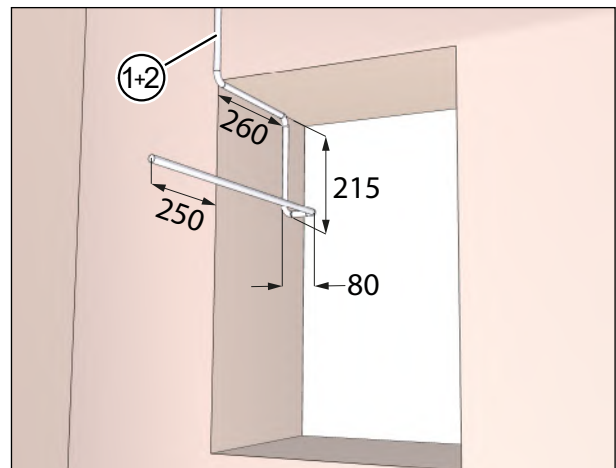

Fig. 16: Running the connecting cables, dimensions in millimetres
- ▶ Run the mains cable (item 1 in Fig. 16) and the control cable, if required (item 2 in Fig. 16). The cables should extend roughly 250 mm beyond the wall.